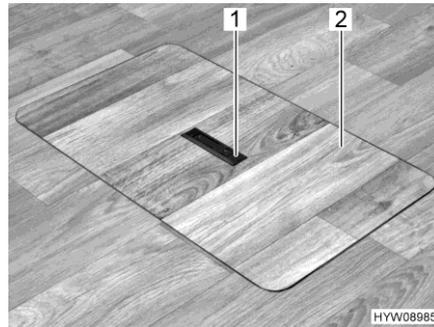
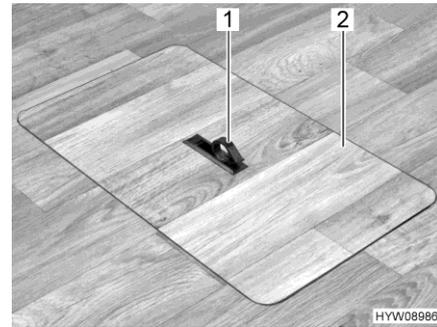

Fig. 81 Floor storage compartment cover (handle recessed)
Fig. 82 Floor storage compartment cover (handle swung out)
- Push one side of the grip plate (Fig. 81,1) downwards. The handle (Fig. 82,1) swivels upwards.
- Remove the cover (Fig. 82,2) upwards.
- Insert the cover (Fig. 82,2) in the frame on the floor.